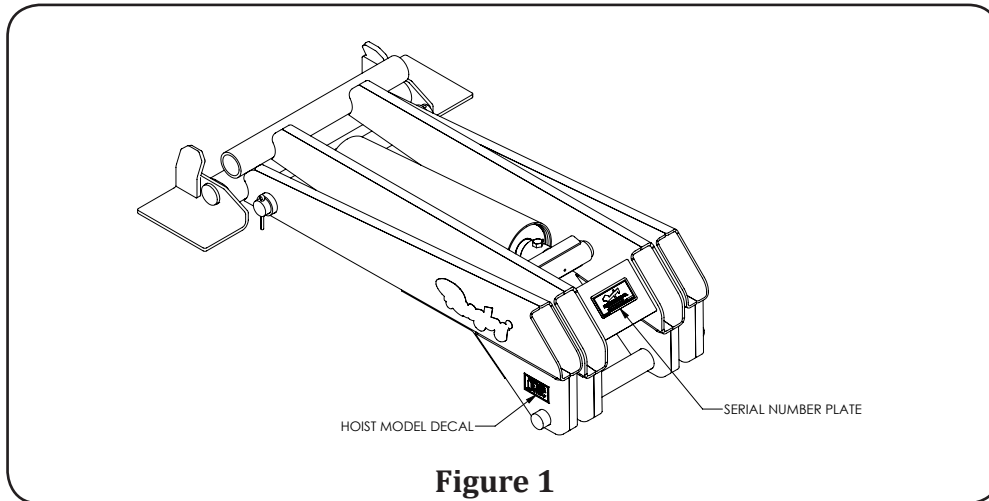

Figure 1
1. Determine the model of the hoist you are repairing by referencing the hoist model decal (**Figure 1**). If the decal is missing or damaged, contact Rugby Manufacturing with the serial number to determine the model.